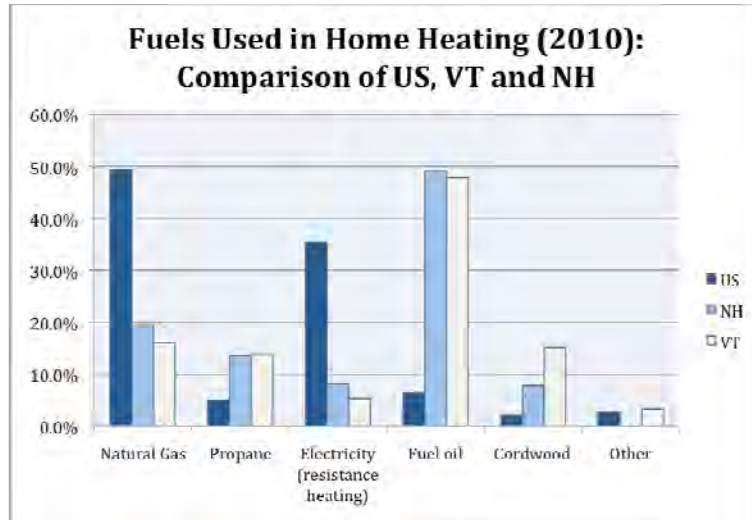

Figure 4: Fuels Used in Home Heating (2010) Comparison of US, VT, and NH
- Figure 4: Fuels used in home heating (2010) comparisons of US, VT and NH